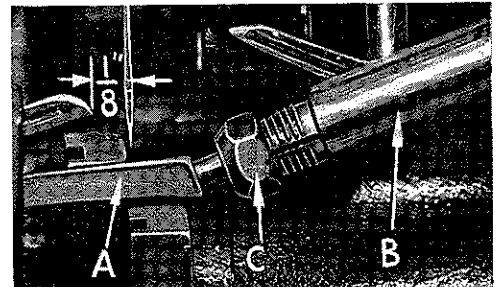

Fig. 5
At this point, insert lower looper (A, Fig. 5) into bar (B). With lower looper at left end of its stroke, set looper point  $1/8$  inch from center of needle (Fig. 5), using looper gauge No. 21225- $1/8$  for Styles 39500 FN, FV, GP and GU. Set looper point  $3/32$  inch from center of needle (Fig. 5), using looper gauge No. 21225- $3/32$  for Styles 39500 FX and JX. Do not have lower looper deflecting needle. Tighten nut (C).